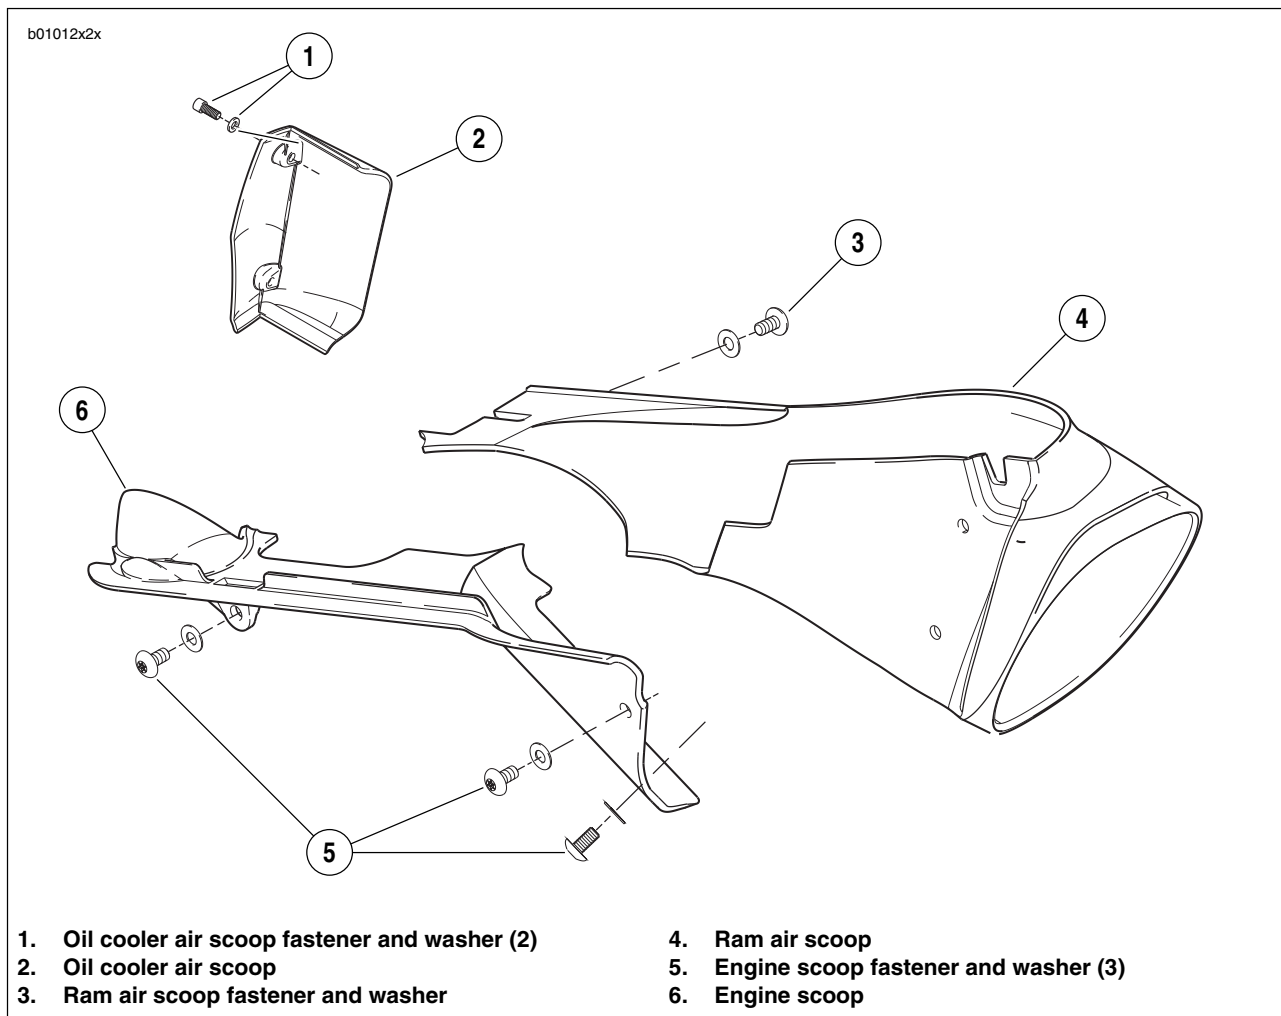

Figure 2-120. RAM Air Scoop, Engine Shroud, Oil Cooler
1. See Figure 2-120. On left side of bike, locate ram air scoop (4).
2. Remove three ram air scoop fasteners (3).
3. Remove ram air scoop (4).
1. See Figure 2-120. Position ram air scoop (4).
2. Install ram air scoop (4) with three fasteners (3). Tighten to 12-36 **in-lbs** (1-4 Nm).
1. See Figure 2-120. On right side of bike, locate engine shroud air scoop (6).
2. Remove three engine shroud air scoop fasteners (5).
3. Remove engine shroud air scoop (6).
1. See Figure 2-120. Position engine shroud air scoop (6).
2. Install engine shroud air scoop (6) with three fasteners (5). Tighten to 12-36 **in-lbs** (1-4 Nm).
1. See Figure 2-120. On left side of bike, locate oil cooler air scoop (2).
2. Remove two oil cooler air scoop fasteners (1).
3. Remove oil cooler air scoop (2).
1. See Figure 2-120. Position oil cooler air scoop (2).
2. Apply LOCTITE 272 (red) to oil cooler air scoop fasteners (1) and tighten to 120-144 **in-lbs** (14-16 Nm).